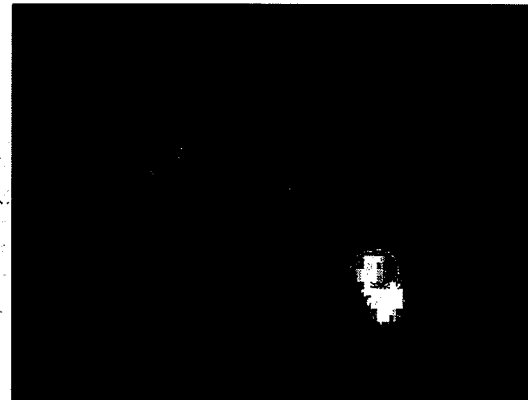

Figure 23
5. Make sure the screen filter over the vacuum motor is clean and in position. See figure 23.